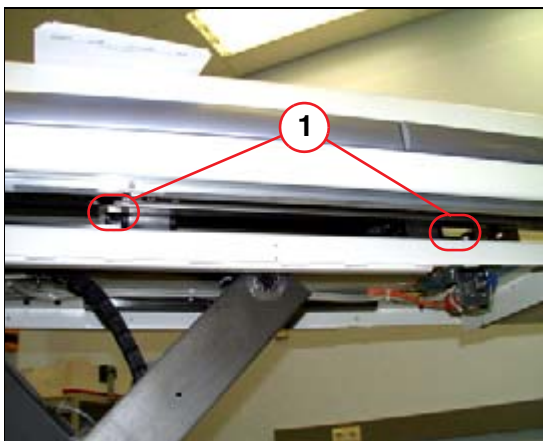

Fig. 10: Table: location of grease fitting
- Place the connector of the lubricant gun on one of the lubrication fittings of the guide rail to be lubricated (1/Fig. 10 / p. 29).